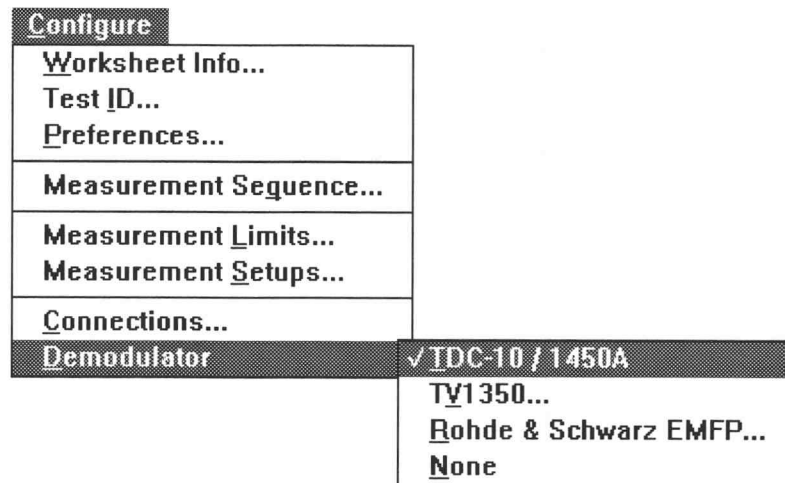

Figure 2-1. The Demodulator selection, from the Configure menu.
2. When the CSS500 start-up is complete, choose Demodulator, from the Configure menu. The display will be similar to Figure 2-1. The checked demodulator is the one selected. Choose the correct one for your system.